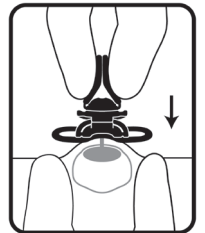

Figure 4
7. Advance needle through the skin and septum into the port reservoir (Fig. 4).